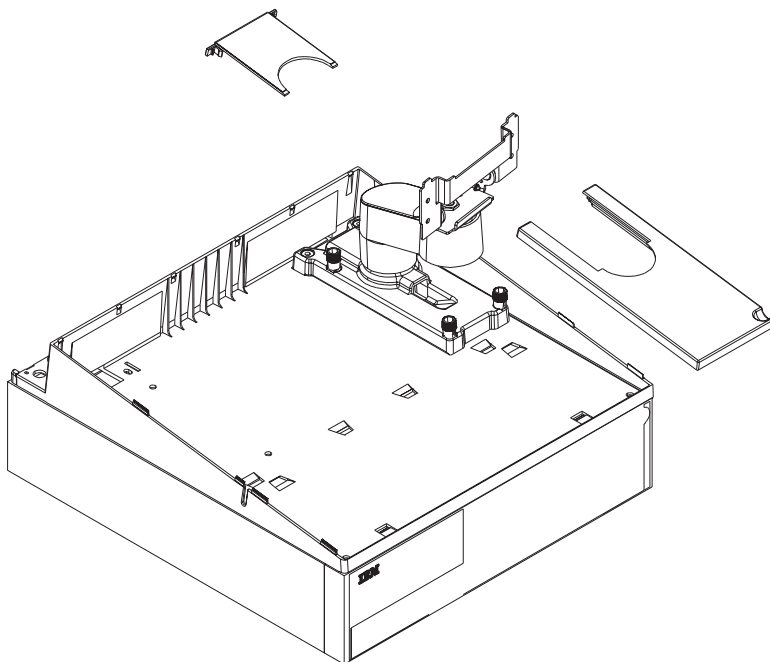

Figure 19. Attaching the filler panel covers for the SurePOS 720, 740, 780
5. Place the filler panel covers on the arm assembly as shown in Figure 19.